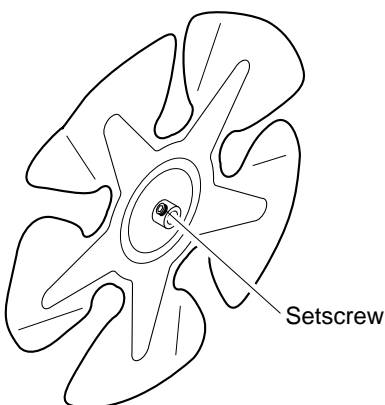

Figure 14 - Setscrew Location
3. Use hex wrench to loosen set screw that holds fan to motor shaft (see Figure 14).